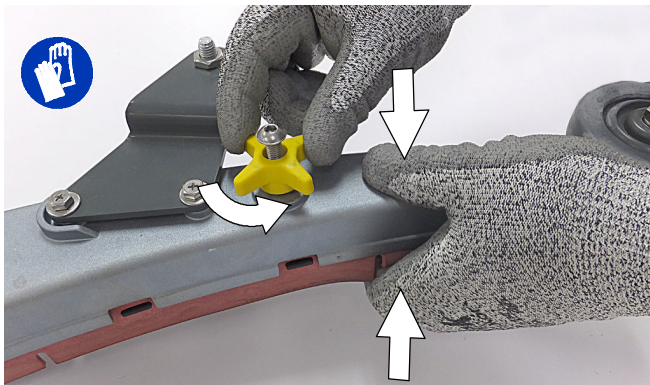

FIG. 126
2. Fully loosen the two outside knobs on squeegee assembly. This will separate the spring loaded blade retainer from squeegee frame (Figure 126). To loosen the knobs quickly, squeeze the blade retainer and squeegee frame together.